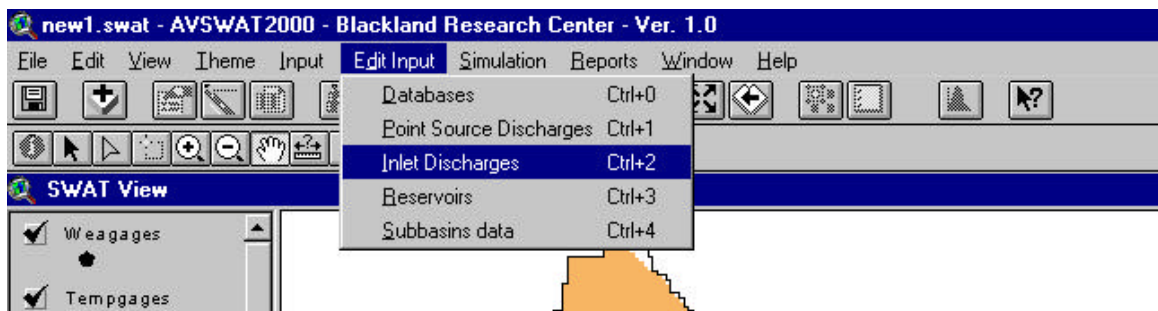

Figure 10.2
1. Select **Inlet Discharges** from the **Edit Input** menu in the *SWAT View* (or press Ctrl+2) (Figure 10.2).